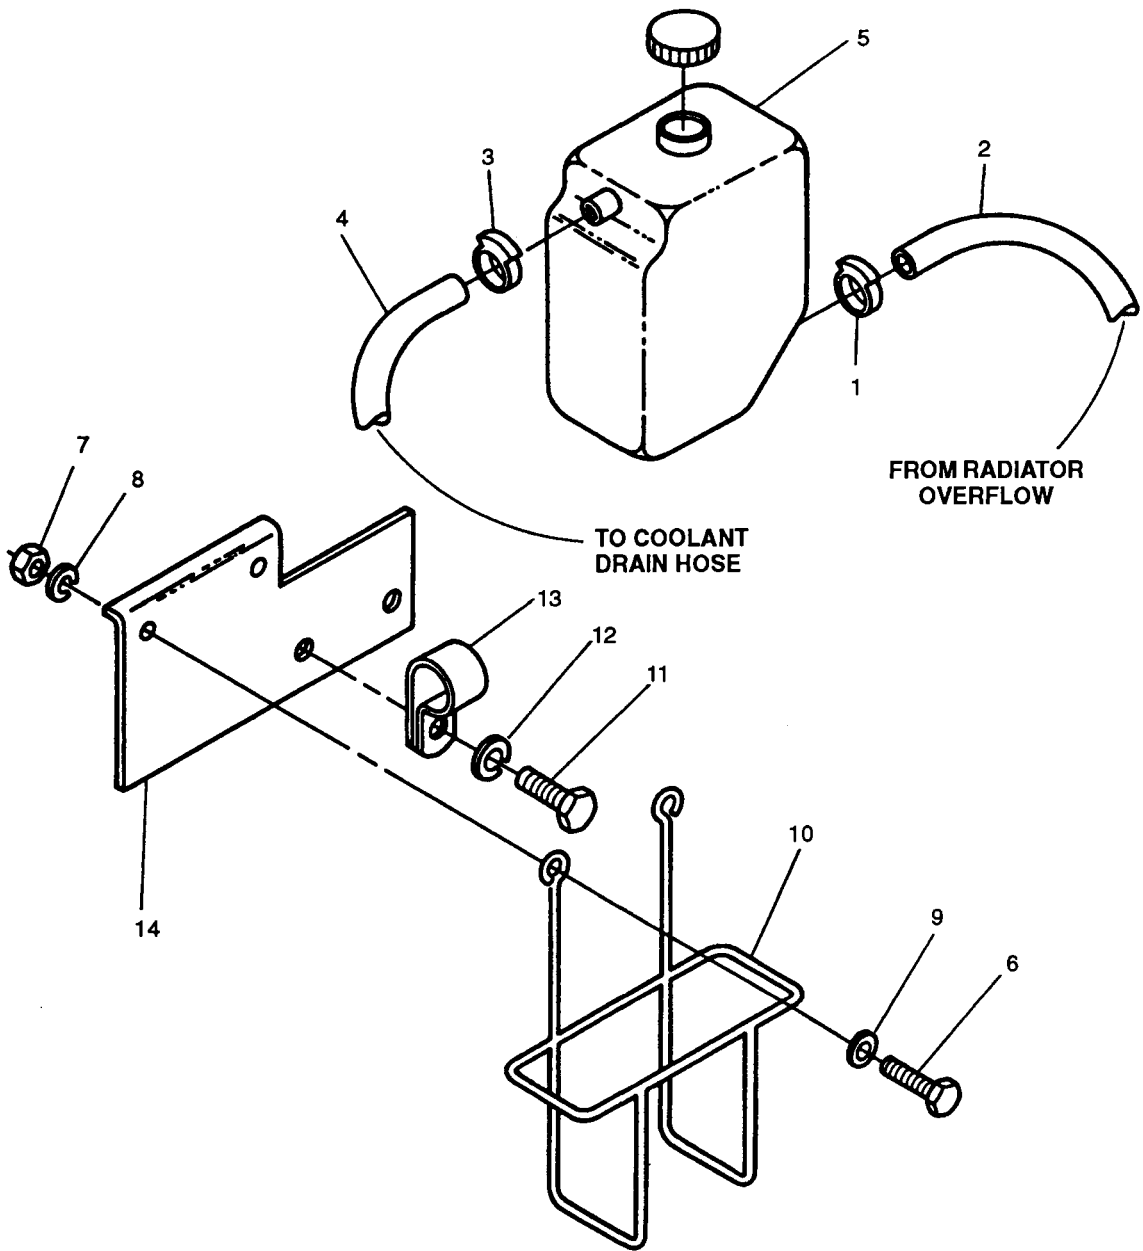

FIGURE 2-25. Coolant Recovery System
- c. Loosen clamp (1, FIGURE 2-25) and disconnect hose (2) from overflow bottle (5) and drain coolant into suitable container.
- d. Loosen clamp (3) and disconnect hose (4) from overflow bottle (5).
- e. Remove overflow bottle (5) from wire holder (10).
- f. Remove bolts (6), nuts (7), lockwashers (8), flatwashers (9), and wire holder(10)from mount(14).
- g. Remove bolts (11), lockwashers (12), clamp (13), and mount (14) from engine.
- a. Install mount (14, FIGURE 2-25) and clamp (13) on engine with bolts (11) and lockwashers (12).
- b. Install wire holder (10) on mount(14) with bolts (6), flatwashers (9), lockwashers (8), and nuts (7).
- c. Install coolant overflow bottle (5) in holder (10) and connect hoses (2) and (4) with clamps (1) and (3).
- d. Fill overflow bottle (5) with coolant to the COLD level. Refer to TABLE 2-1 for proper coolant.
- f. Add coolant to HOT level of overflow bottle (5) and close right side engine access doors.